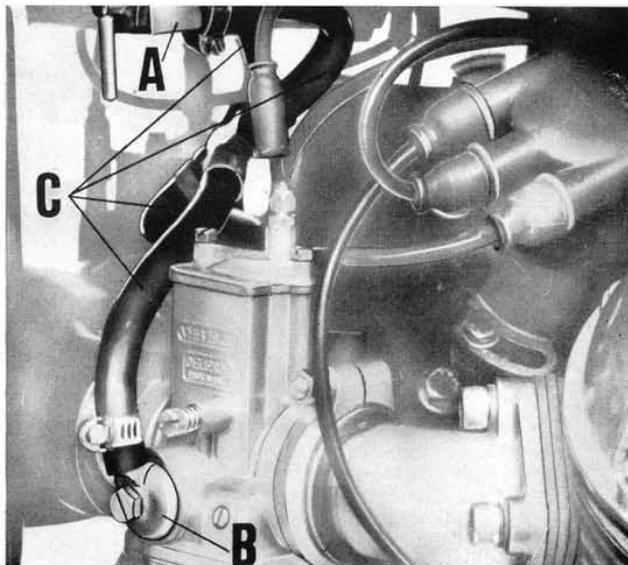

Fig. 20
(See fig. 20)
Every 10.000 kms. or so (6000 miles) or any time fuel flow to the carburetors is not regular, it is necessary to check if there are no leakages at the fuel line connections (See C fig. 20) or if the filter on the taps (A) and the carburetors (B) are clean.